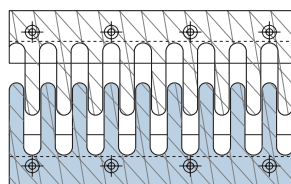

Fig.1
- NFT joints are manufactured on request and may be adapted to the directional movement of the main structure, straight (fig.1) or skew (fig.2).